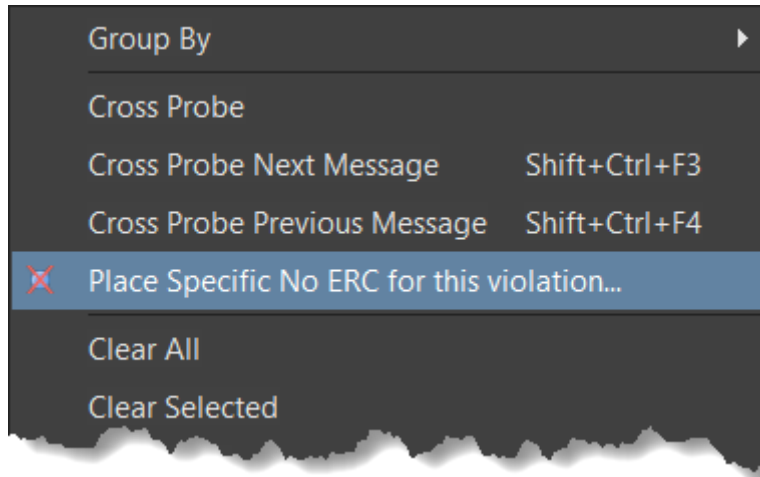

Figure 7. Place No ERC Directive directly from the Messages panel
- b) Select **Place Specific No ERC for this Violation...** from the menu as shown in Figure 7.